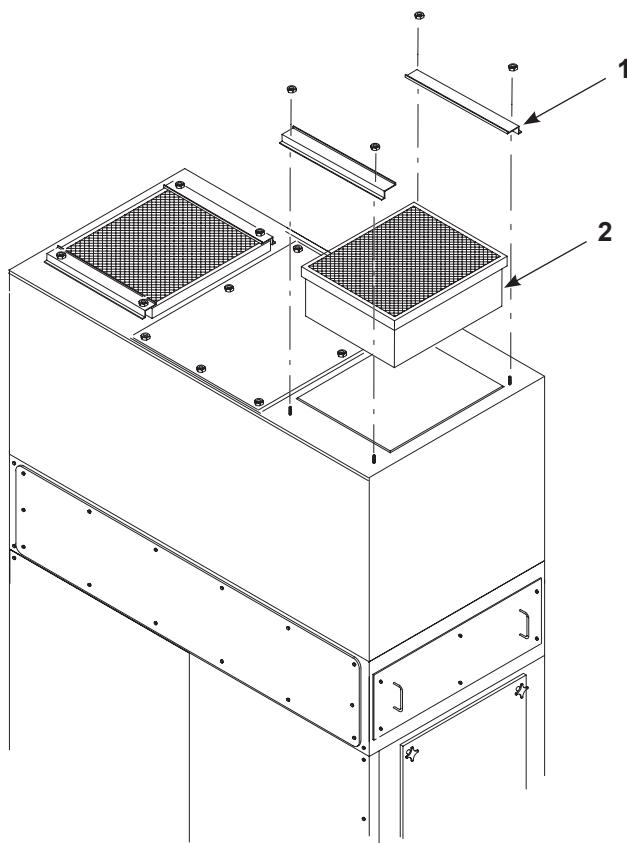

Figure 8-19 Final Filter Replacement
1. See Figure 8-19. Remove the final filter brackets (1).
2. Pull the old final filter (2) out of the powder feed center.